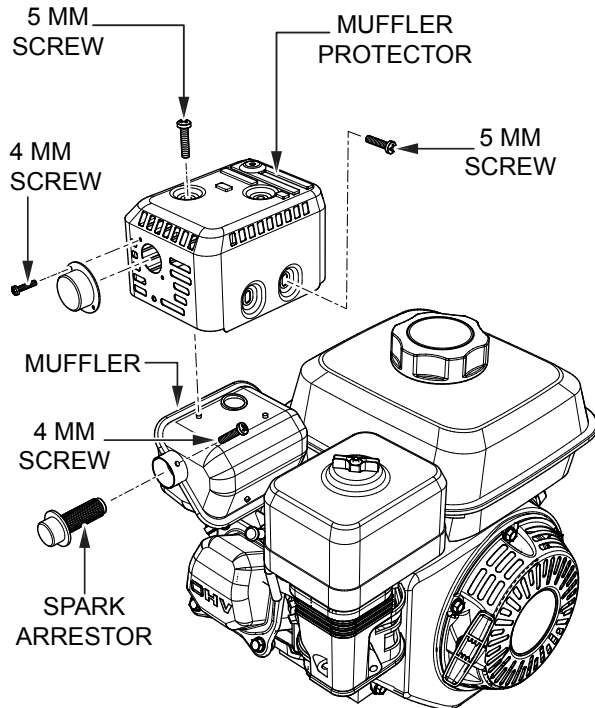

Figure 64. Spark Arrester Removal
1. Remove the 4 mm screws that secure the exhaust deflector to the muffler protector, then remove the exhaust deflector (Figure 64).
2. Remove the 5 mm screws that secure the muffler protector to the muffler, then remove the muffler protector (Figure 64).
3. Remove the 4 mm screw securing the spark arrester to the muffler, then remove the spark arrester (Figure 64).